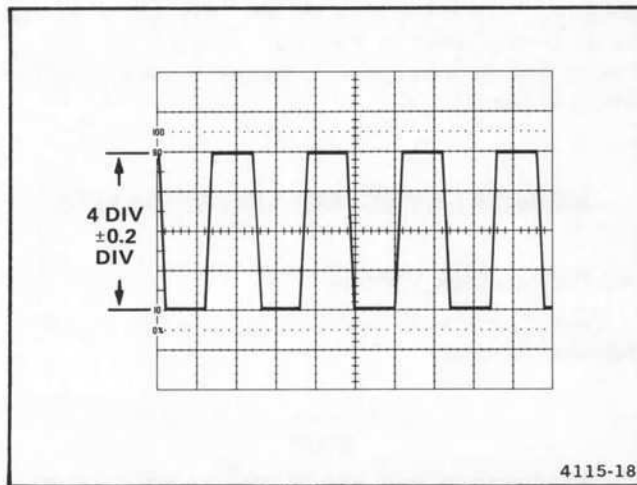

Figure 12. Vertical display accuracy.
7. Check for a vertical display amplitude of 4 divisions  $\pm 0.2$  division (3.8 to 4.2 divisions). See Figure 12.